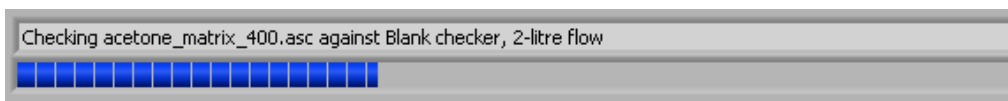

Figure 35 Status and progress bars.
- A status and progress bar at the bottom of the window updates as the program checks each of the requested DF matrices against the applications. See Figure 35.